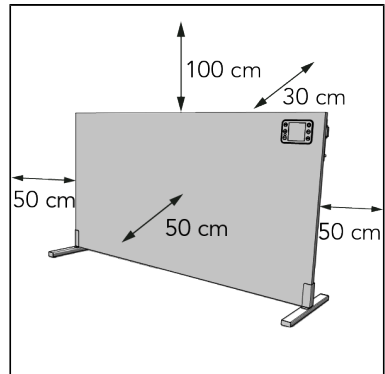

Figure 28.
7. Place the device with a minimum clearance distance (Figure 28) of: